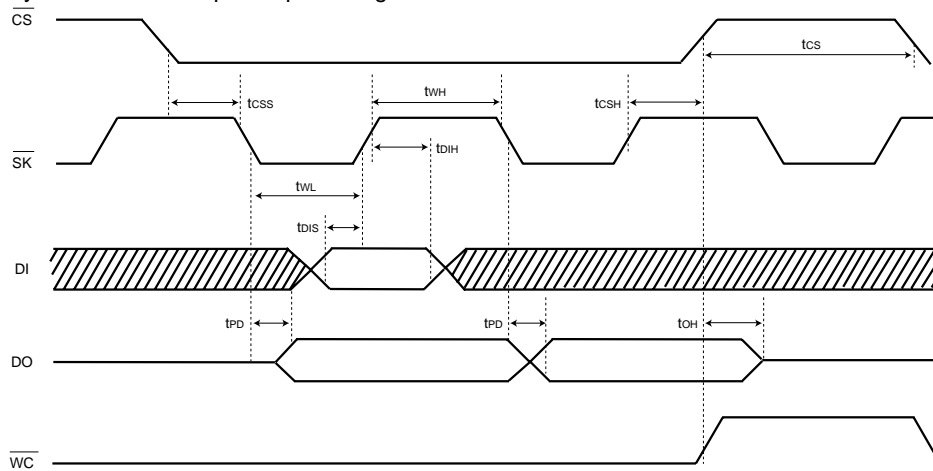

Fig.1
- 1) On the falling edge of 16th clock, the data stored in the specified address (n) is clocked out of the DO pin. The Output DO is toggled after the internal propagation t_{PD0} or t_{PD1} on the falling edge of \overline{SK} . During t_{PD0} or t_{PD1} , the data is the previous data or unstable, and to take in the data, t_{PD} is needed. (Refer to Fig.1 Synchronous data input output timing.)